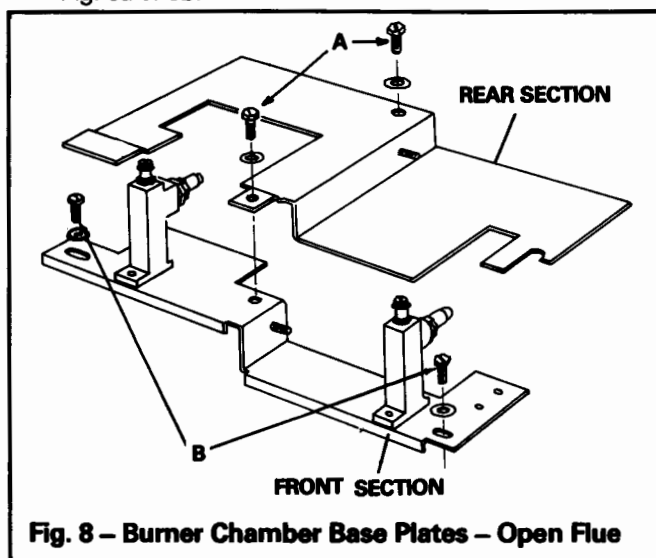

Fig. 8 - Burner Chamber Base Plates - Open Flue
- d. Remove the rear section of the combustion chamber base plate (Fig. 8) by releasing the two screws **A**.